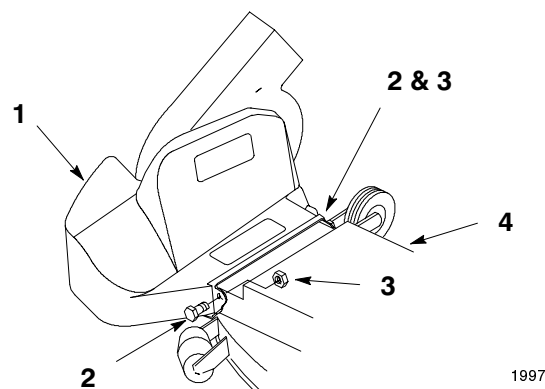

Figure 20
1. Mount blower belt cover using (2) 1/4 x 5/8" bolts and (2) 1/4" lock nuts (Fig. 20). Tighten lock nuts slightly so light drag is felt on belt cover when tilted upward. Cover must close freely when assembled.